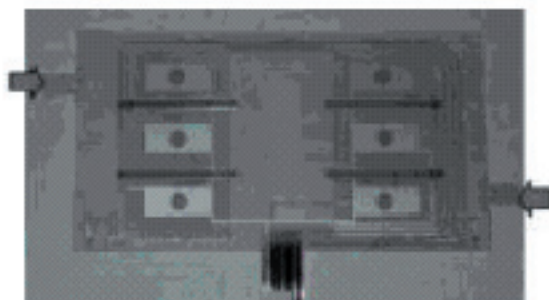

Fig. 4-3
7. The locking tabs on the replacement membrane switch **must be creased** for insertion into the backer plate, or the membrane switch will not lay flat against the plate. This can cause the washer to not accept commands. (Fig. 4-3)